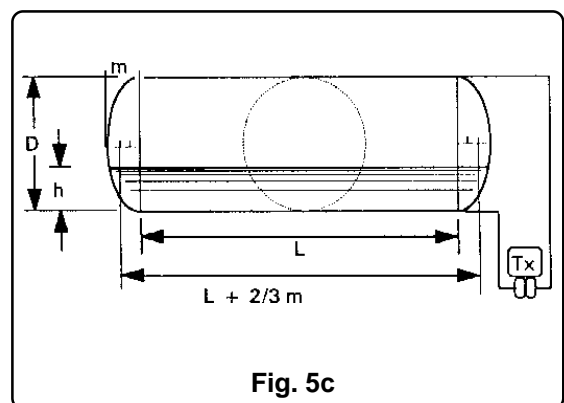

Fig. 5c
c) Cylindrical vessel with elliptical or pseudoelliptical ends (see Fig. 5c). Transmitter measuring the whole vessel height.
where m is the length of the minor ellipse axis (see Fig.5c)